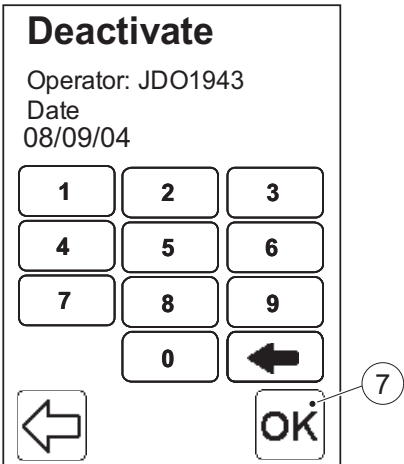

FIGURE 3-24
- e) Press the Confirm button (6). *FIGURE 3-24* will be displayed.